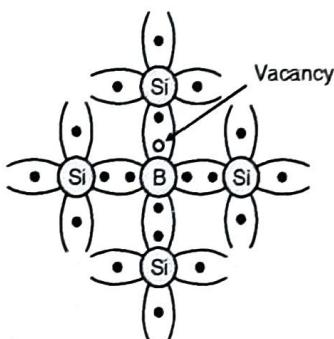

Fig. 3.7.3 : p-type semiconductor
- As shown in Fig. 3.7.3 boron (B) has been added as impurity which has three electrons. Each B atom tries to form covalent bonds with surrounding four Si atoms and falls short of one electron for completing four covalent bonds.